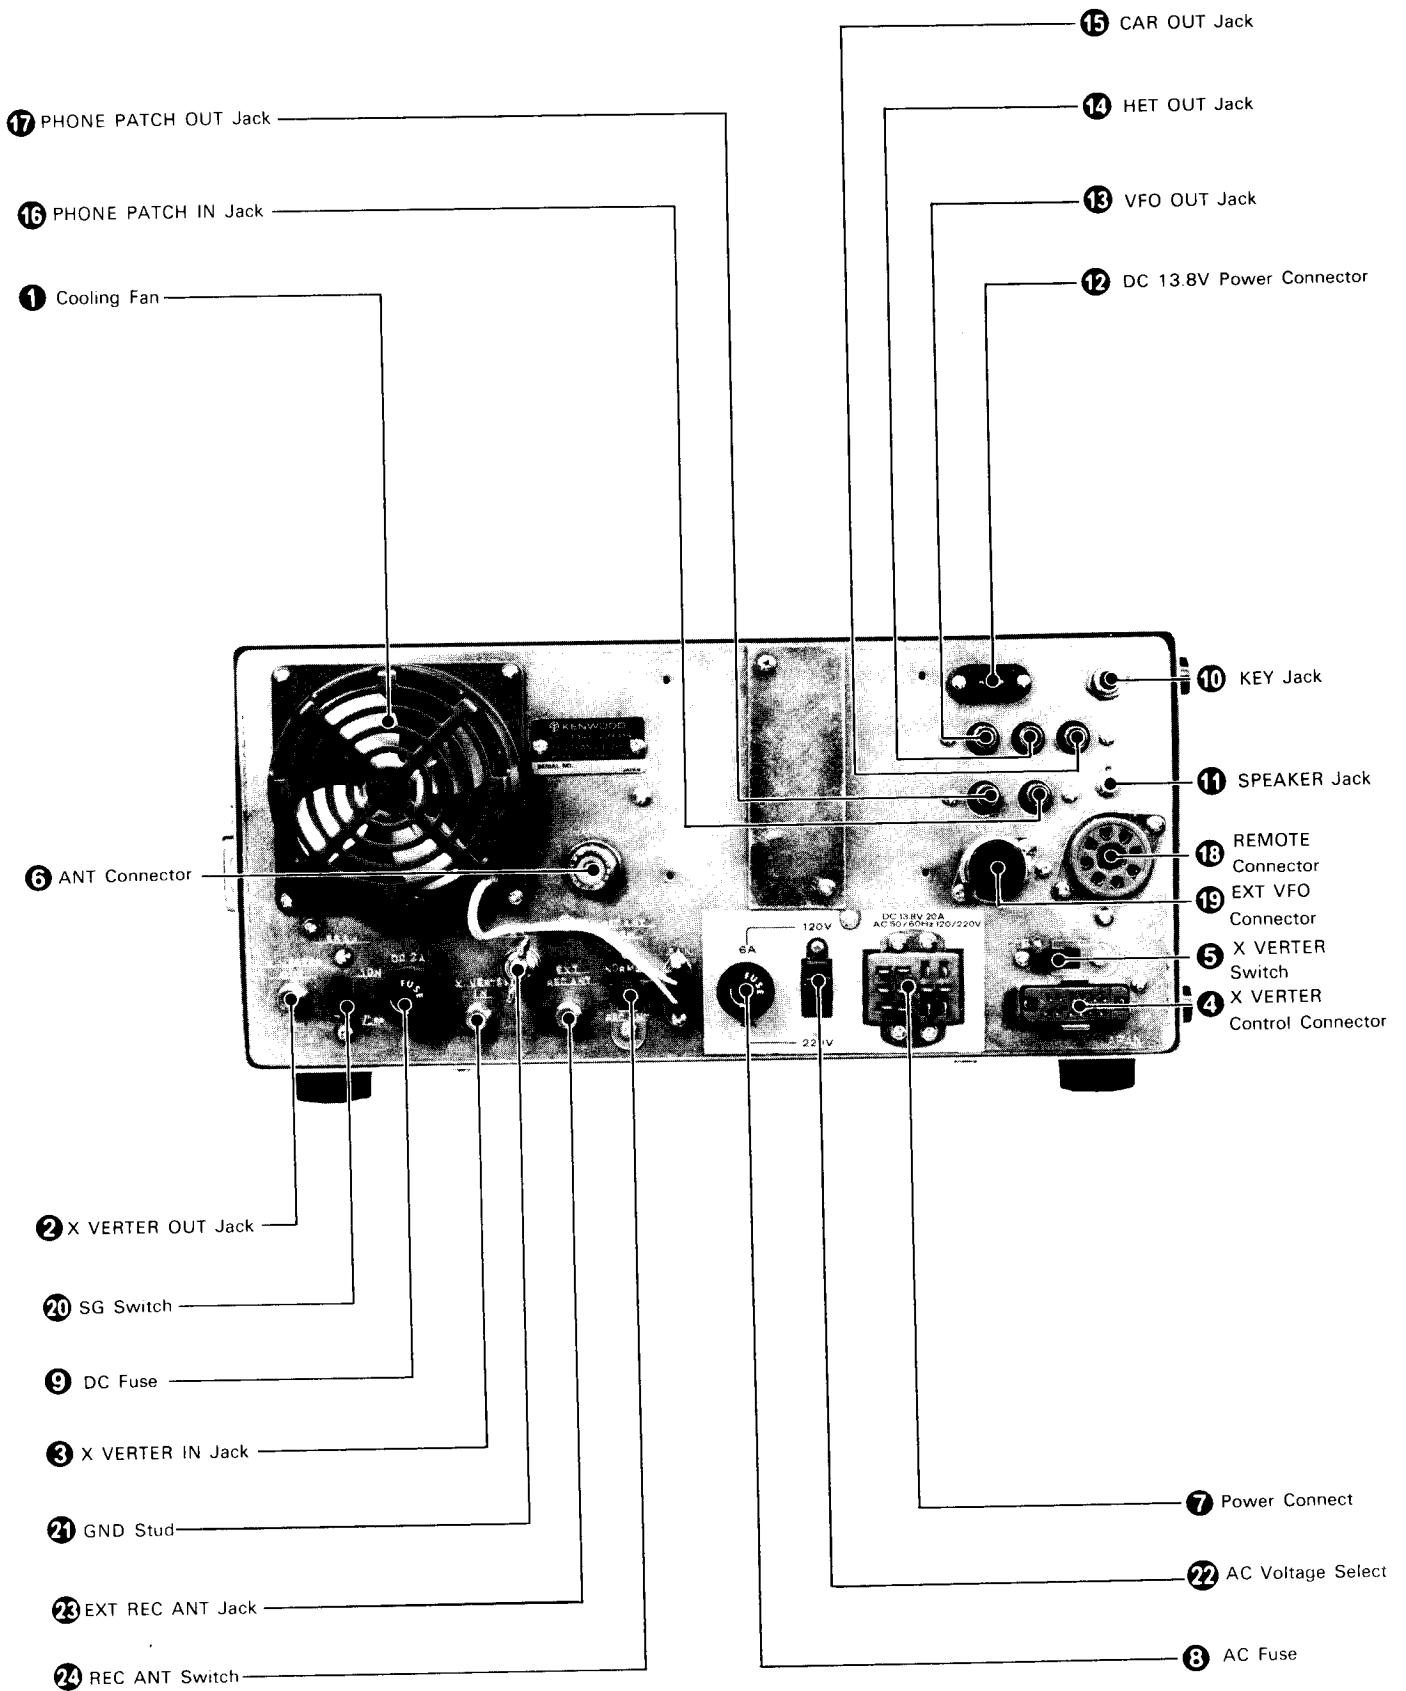

Fig. 7 Rear Panel Controls
3.3 REAR PANEL CONTROLS (See Figure 7)
■ COOLING FAN (1 on Figure 7)
■ TRANSVERTER OUT JACK (2 on Figure 7)
■ TRANSVERTER IN JACK (3 on Figure 7)
■ TRANSVERTER CONNECTOR (4 on Figure 7)
■ XVERTER SWITCH (5 on Figure 7)
■ ANTENNA CONNECTOR (6 on Figure 7)
■ POWER SUPPLY CONNECTOR (7 on Figure 7)
■ **AC FUSE (8 on Figure 7)**
■ **DC FUSE (9 on Figure 7)**
■ **KEY JACK (10 on Figure 7)**
■ **SPEAKER JACK (11 on Figure 7)**
■ **13.8V DC CONNECTOR (12 on Figure 7)**
■ **VFO OUT JACK (13 on Figure 7)**
HET OUT JACK (14 on Figure 7)
CAR OUT JACK (15 on Figure 7)
■ **PHONE PATCH IN JACK (16 on Figure 7)**
■ **PHONE PATCH OUT JACK (17 on Figure 7)**
■ **REMOTE CONNECTOR (18 on Figure 7)**
■ **EXTERNAL VFO CONNECTOR (19)** on Figure 7)
■ **SG SWITCH (20)** on Figure 7)
■ **GND (Ground) LUG (21)** on Figure 7)
■ **AC VOLTAGE SELECT SWITCH (22)** on Figure 7)
■ **EXTERNAL RECEIVER ANTENNA JACK (23)** on Figure 7)
■ **RECEIVER ANTENNA SWITCH (24)** on Figure 7)